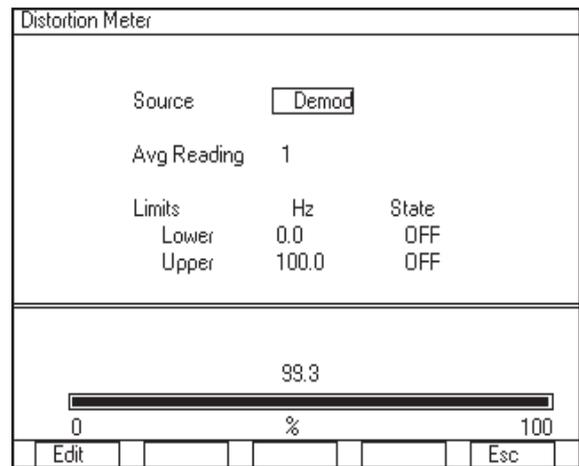

Figure 9 - Distortion Meter
12. Press the Zoom softkey and the screen in Figure 9 should appear.